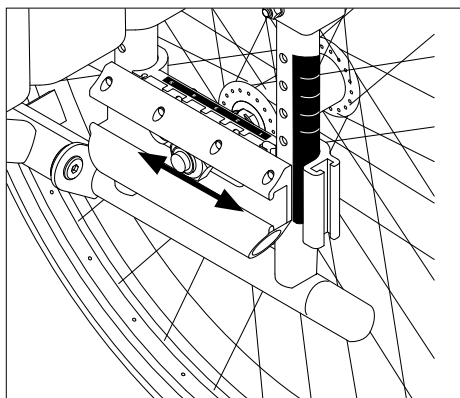

Figure 28
- Adjust the casing of the driving wheel forward or backward (Figure 28).